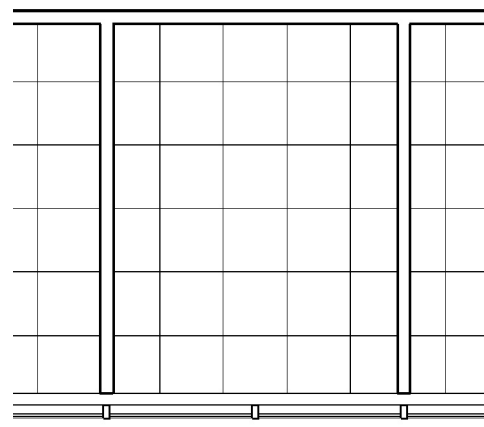

FIGURE 7-4.7
12. Use the **Move** tool to move the grid 12" to the East (Figure 7-4.7).